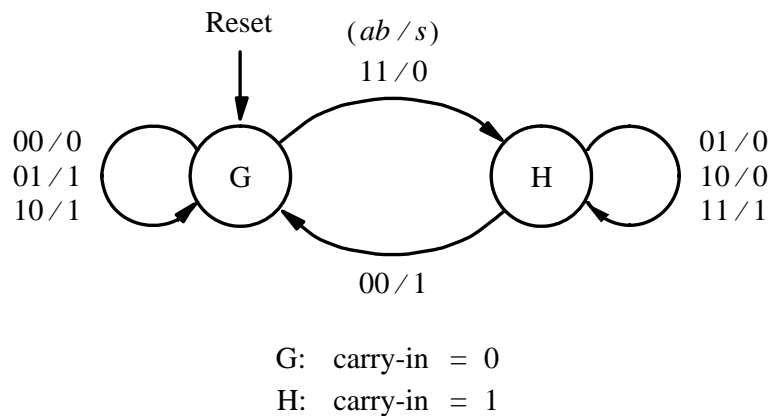

Figure 1: State diagram for a serial adder FSM
- **Problem 6:** The state machine in Figure 1 is for a serial adder. All inputs and outputs should be synchronous. Use logic gates and D flip-flops to implement this state machine as a schematic. Verify correct operation with a simulation using ModelSim-Altera. Create